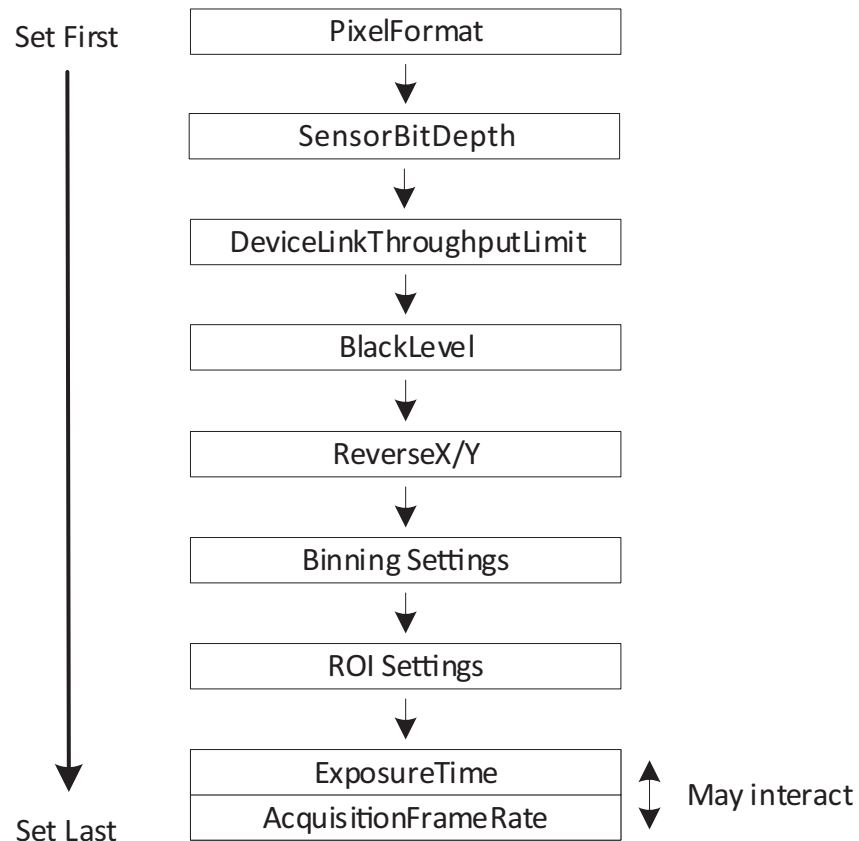

Figure 93: Interdependencies between features
The conversion between time and clock cycles affects control values. Features for pixel format, bandwidth, ROI, exposure time, and triggering are related to each other. Changing values for one feature can change values for another feature. For example, frame rates can be reduced when `PixelFormat` is changed subsequently. Figure 93 shows the interdependencies.
- To avoid readjustments, apply settings in the order shown in Figure 93.